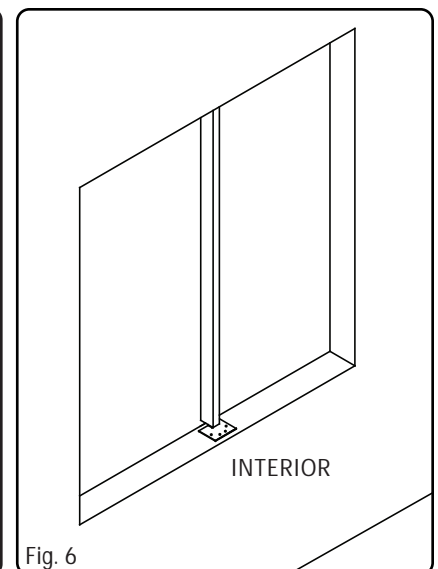

Fig. 6
- (Fig. 6) Place the brackets and mull reinforcement in the correct location in the rough opening and fasten in place. The impact mull reinforcement exterior face should sit 1" past the exterior wall or the offset impact bracket fastener holes will be 4-7/16" & 4-15/16" behind the nailing fin, (reference the anchor requirements on the next page for securing the impact brackets to the rough opening).